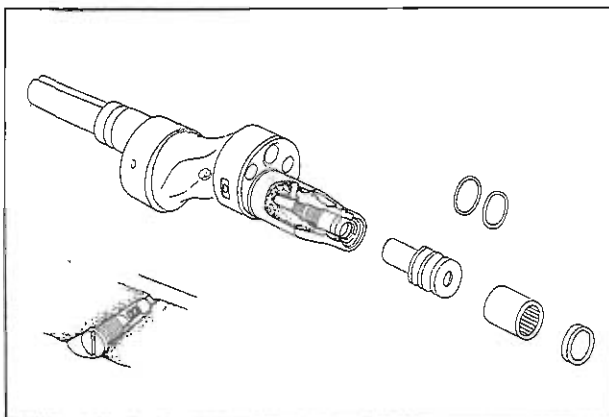

Fig. 1-58 Roller bearing and oil jet
7. The oil jets are installed in the eccentric shaft. The oil jets open when the number of engine revolutions increases and the oil pressure rises. Check for spring weakness, stick or damage of the steel ball. (Fig. 1-58)